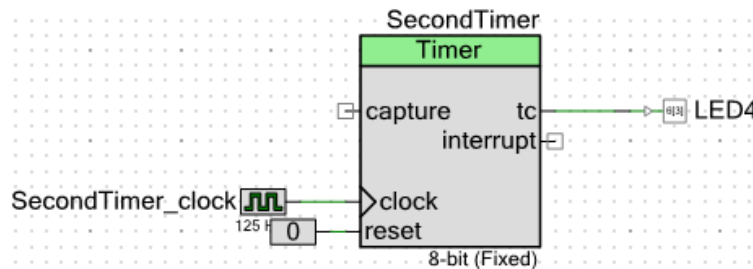

Figure 5: Part A Schematic
7. The schematic should look like Figure 5.